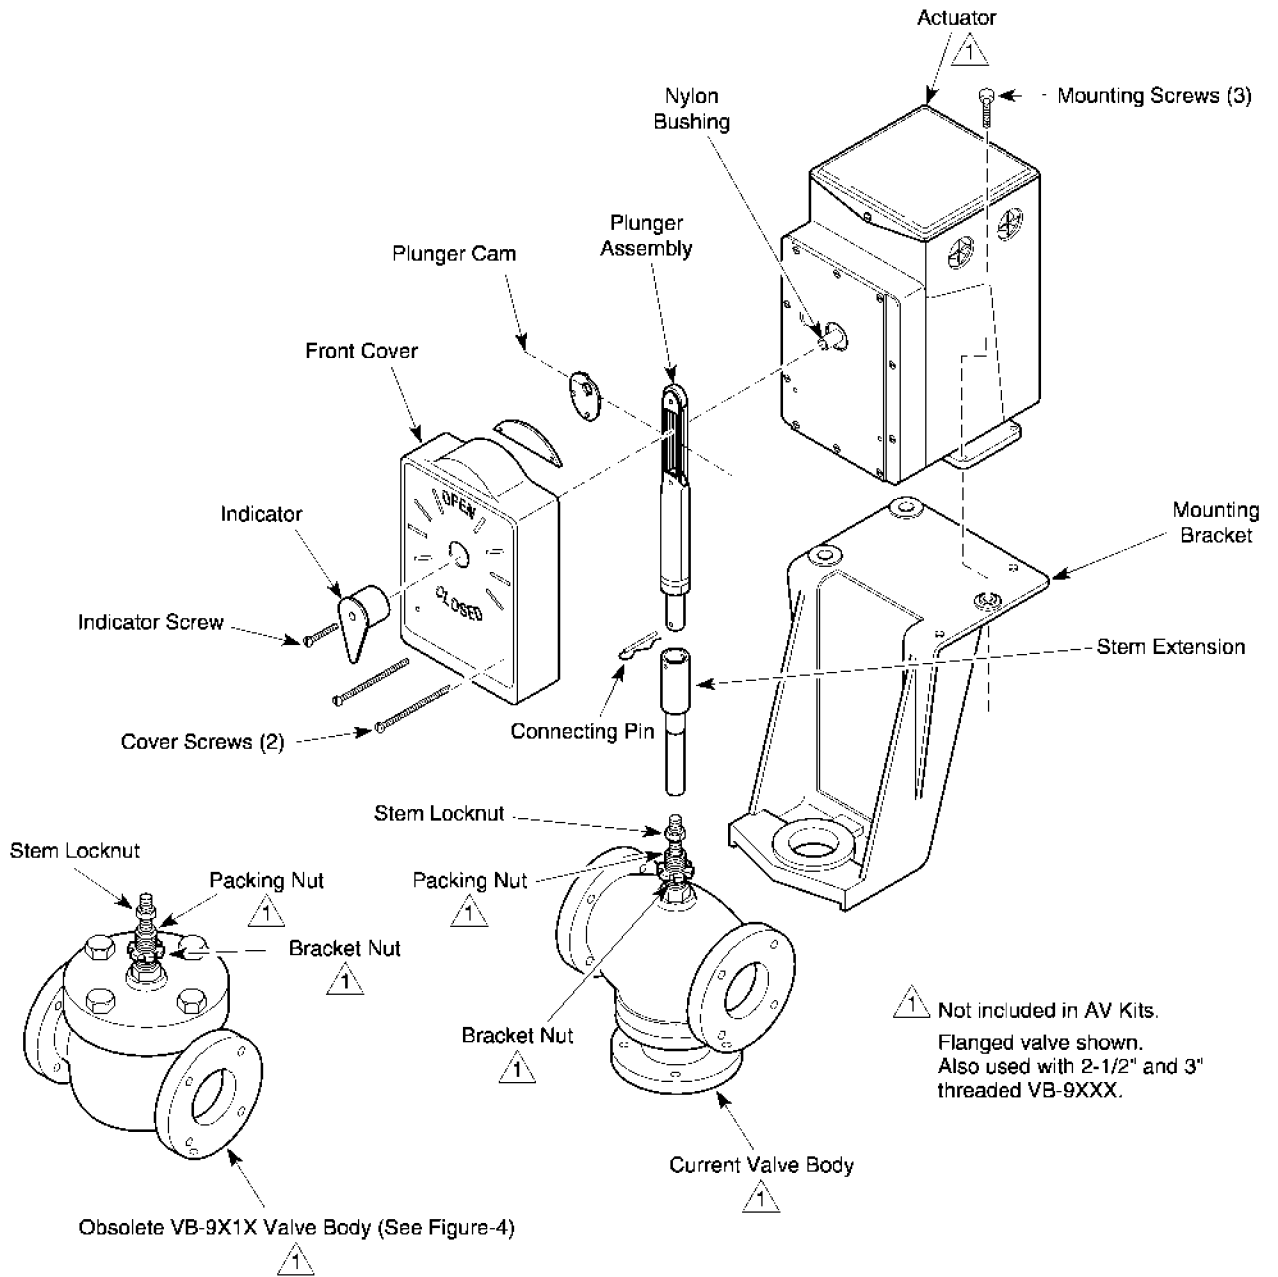

Figure-3 Valve Linkages for Current 2-1/2" to 4" VB-9X1X Valve Bodies.
1. Mount the bracket onto the valve body by removing the bracket nut, placing the bracket on the valve body, and replacing and tightening the valve bracket nut. See Figure-3.